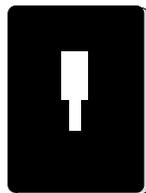

FIG. 6 IR shield
2. Test-fit the IR shield (FIG. 6) to the television's IR window. If necessary, use scissors and trim the shield to fit.